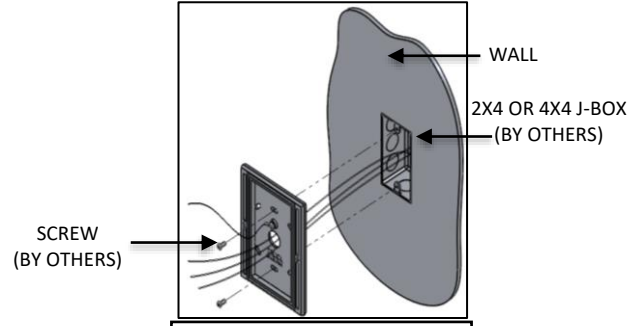

FIG. 6- MOUNTING PLATE
3. Pull Black, White & Green supply wires through center hole of MOUNTING PLATE and attach MOUNTING PLATE TO JUNCTION BOX (BY OTHER) as shown below in FIG. 6.